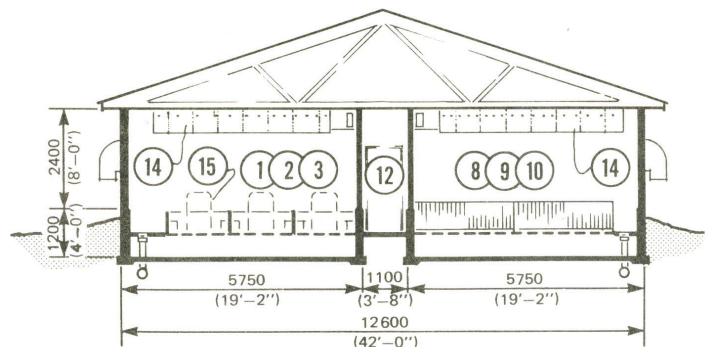

Figure 2 Large multiple-room farrowing/weanling unit
**VENTILATION** The multiple-room farrowing and weanling building is only part of a management package that helps produce more healthy weaned pigs per sow. Another important aspect is the ventilation system. First, a preheat hallway (⑫ and ⑬, Figure 2) is used in winter to warm the cold outside air to above freezing, before it is pulled into each farrowing and weanling room. This hallway may be preheated in a variety of ways, such as fan-forced electric or hot-water radiators.